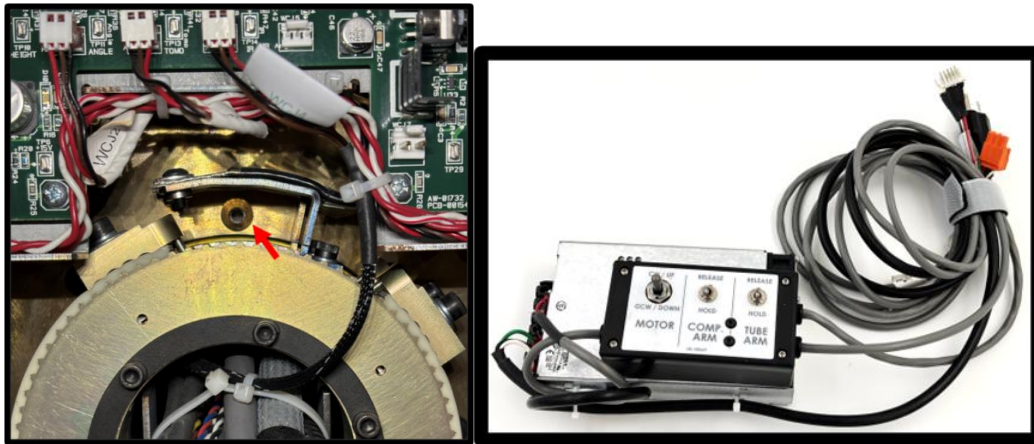

Figure 3 – Screw number centered in system (left) and TLS-01064 power supply (right)
6. Remove the gantry front covers to gain access to the front of the VTA assembly and use the TLS-01064 Gantry power supply to rotate the VTA to center one of the readily accessible screw heads as shown in Figure 3.